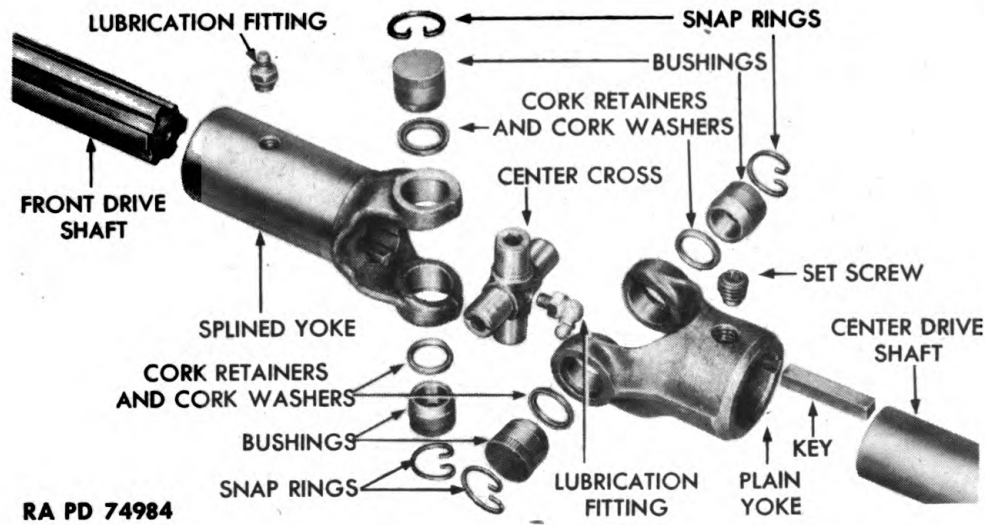

Figure 30 - Universal Joint - Disassembled
(3) **DISASSEMBLE UNIVERSAL JOINTS** (fig. 30). Remove four snap rings, and press on center cross so that four bushings are removed from center cross. Remove center cross from both yokes, and remove four cork washers and four cork retainers from cross. Remove set screw and lubrication fitting from yoke.
(1) **ASSEMBLE UNIVERSAL JOINTS** (fig. 30). Install lubrication fitting in yoke; then install four cork retainers and four cork washers on center cross. Install center cross in both yokes, install four bushings, and secure with snap rings.